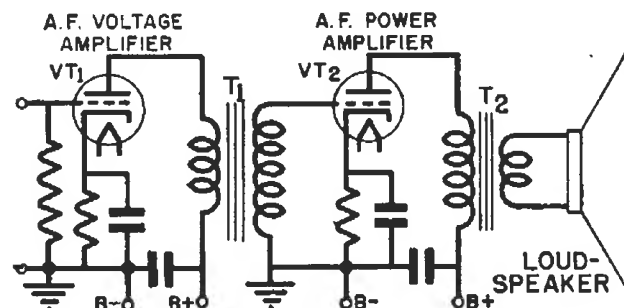

FIG. 17. Both an interstage and an impedance-matching transformer are shown in use here.
► Sometimes both interstage and impedance-matching transformers are used in the same apparatus. For example, in Fig. 17 transformer T_1 steps up voltage while T_2 matches the loud-speaker voice coil to the plate resistance of VT_2 .